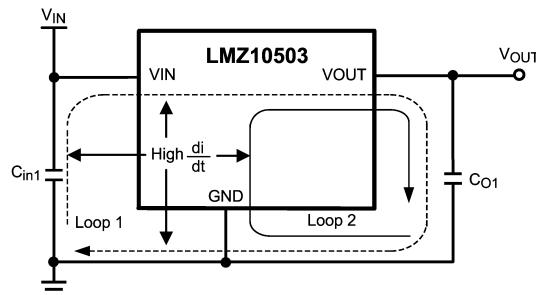

Figure 29. Critical Current Loops to Minimize
From an EMI reduction standpoint, it is imperative to minimize the high di/dt current paths. The high current that does not overlap contains high di/dt, see Figure 29. Therefore physically place input capacitor (C_{in1}) as close as possible to the LMZ10503 VIN pin and GND exposed pad to avoid observable high-frequency noise on the output pin. This will minimize the high di/dt area and reduce radiated EMI. Additionally, grounding for both the input and output capacitor should consist of a localized top side plane that connects to the GND exposed pad (EP).